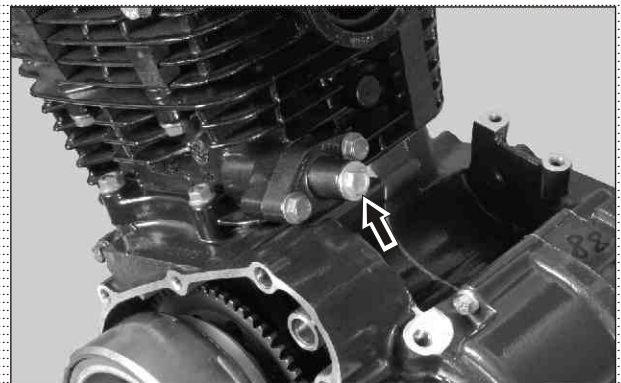

Fig. 3.68
- Remove bolt adjuster assembly tensioner and take out the bolt. (Fig. 3.68)